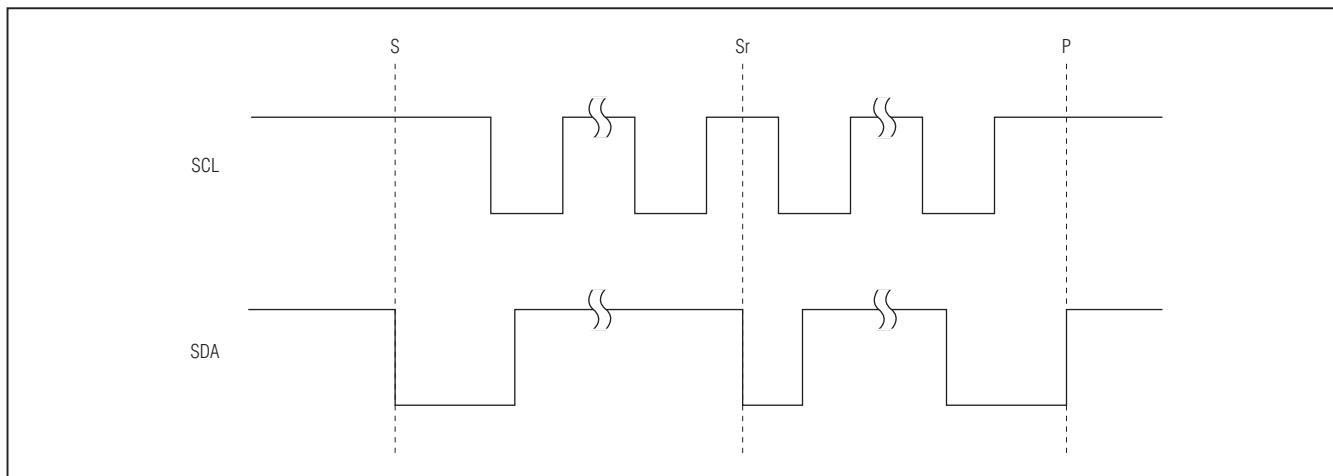

Figure 21. I2C START, STOP, and Repeated START Conditions
issuing a STOP condition (P), to relinquish control of the bus, or a Repeated START condition (Sr) to communicate to another I2C slave. See Figure 21.